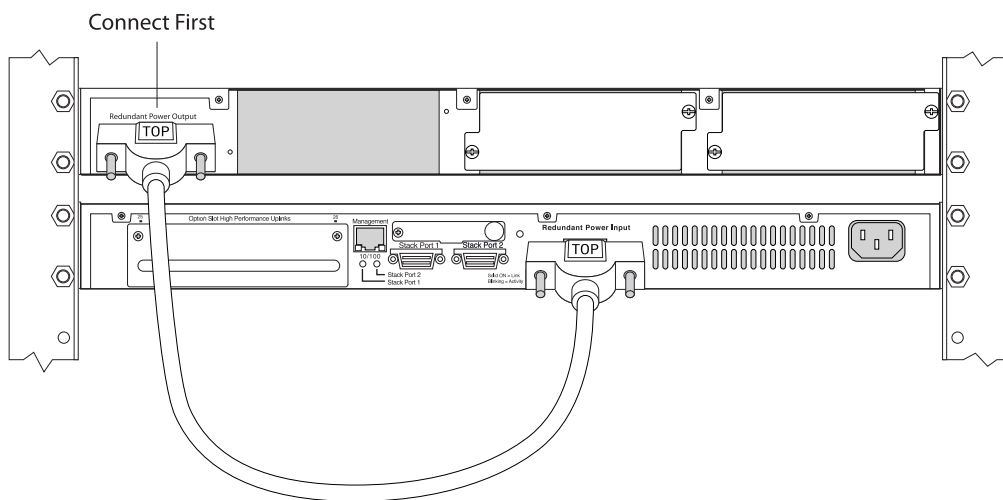

Figure 309: Installing the Redundant Power Cord
- 5 Connect the keyed end of the redundant power cord to the EPS-C (see Figure 309: Installing the Redundant Power Cord on page 337). Verify that the side of the connector marked TOP is facing up.
- 6 Connect the other end of the redundant power cord to the Summit X450e-48p or X250e-48p switch (see Figure 309: Installing the Redundant Power Cord on page 337). Be sure that the side of the connector marked TOP is facing up.